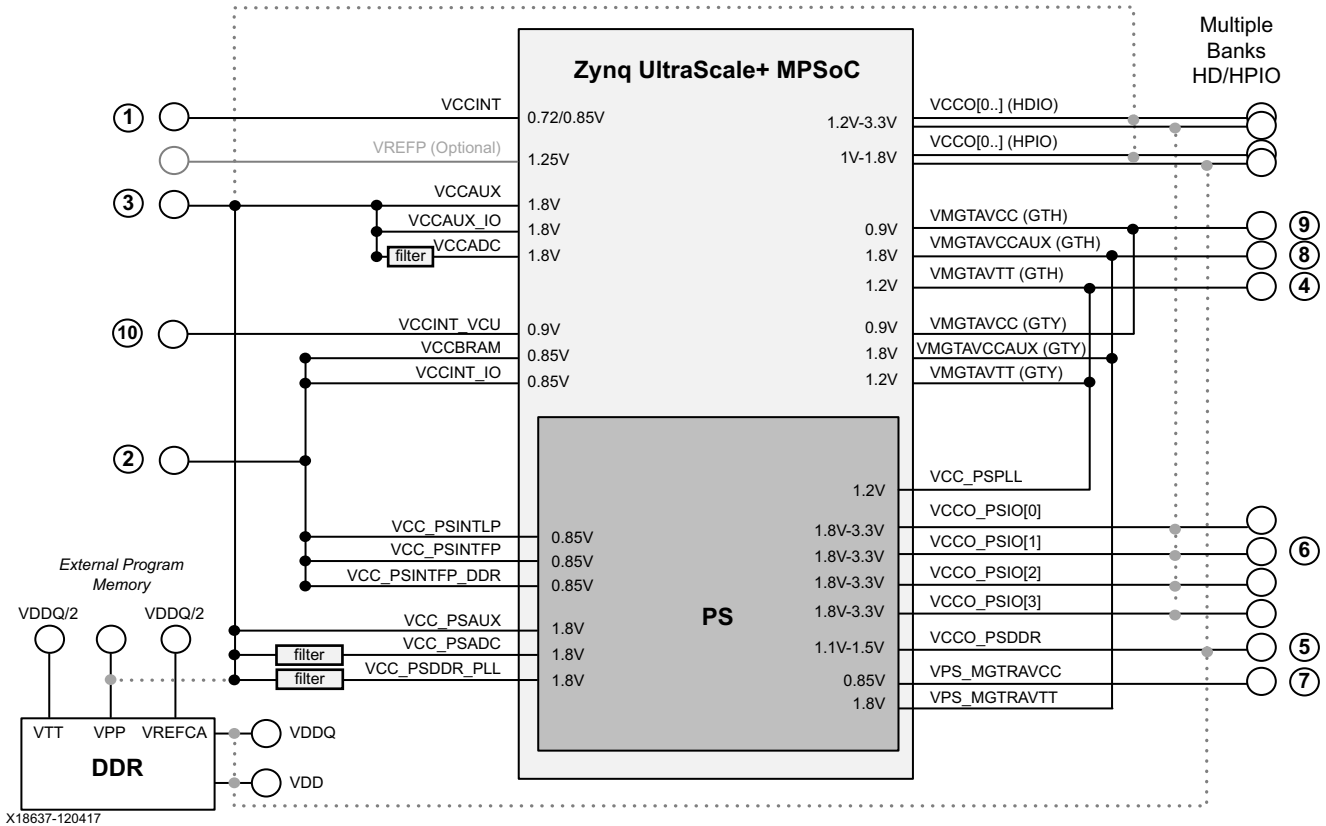

Figure 1-6: Always On: Power and/or Efficiency-Optimized Power Rail Consolidation for Low-Power Devices
Other than the need for an additional power regulator for VCCINT, the possible power rail consolidation is similar to the previous use case. Table 1-4 broadly defines what power rail consolidation is possible for this use case, assuming the decoupling and filtering requirements on the individual supplies as outlined in this document are met. For further clarity, Figure 1-6 shows the possible power rail consolidation graphically.
**Note:** In Figure 1-6, the dashed lines are dependent on the user configuration.